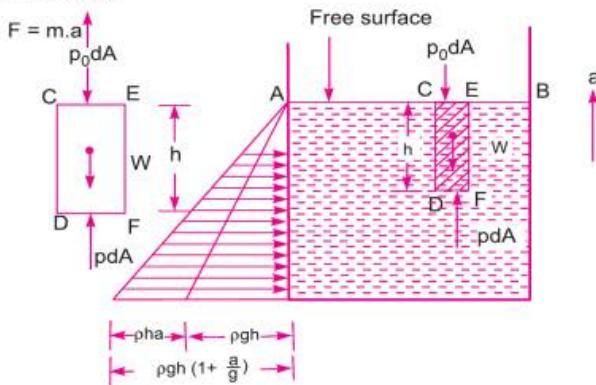

Fig. 3.49
3.8.2 Liquid Container Subjected to Constant Vertical Acceleration. Fig. 3.49 shows a tank containing a liquid and the tank is moving vertically upward with a constant acceleration. The liquid in the tank will be subjected to the same vertical acceleration. To obtain the expression for the pressure at any point in the liquid mass subjected to vertical upward acceleration, consider a vertical elementary prism of liquid $CDFE$.
Fig. 3.49 shows the variation of pressure for the liquid mass subjected to a constant vertical upward acceleration.